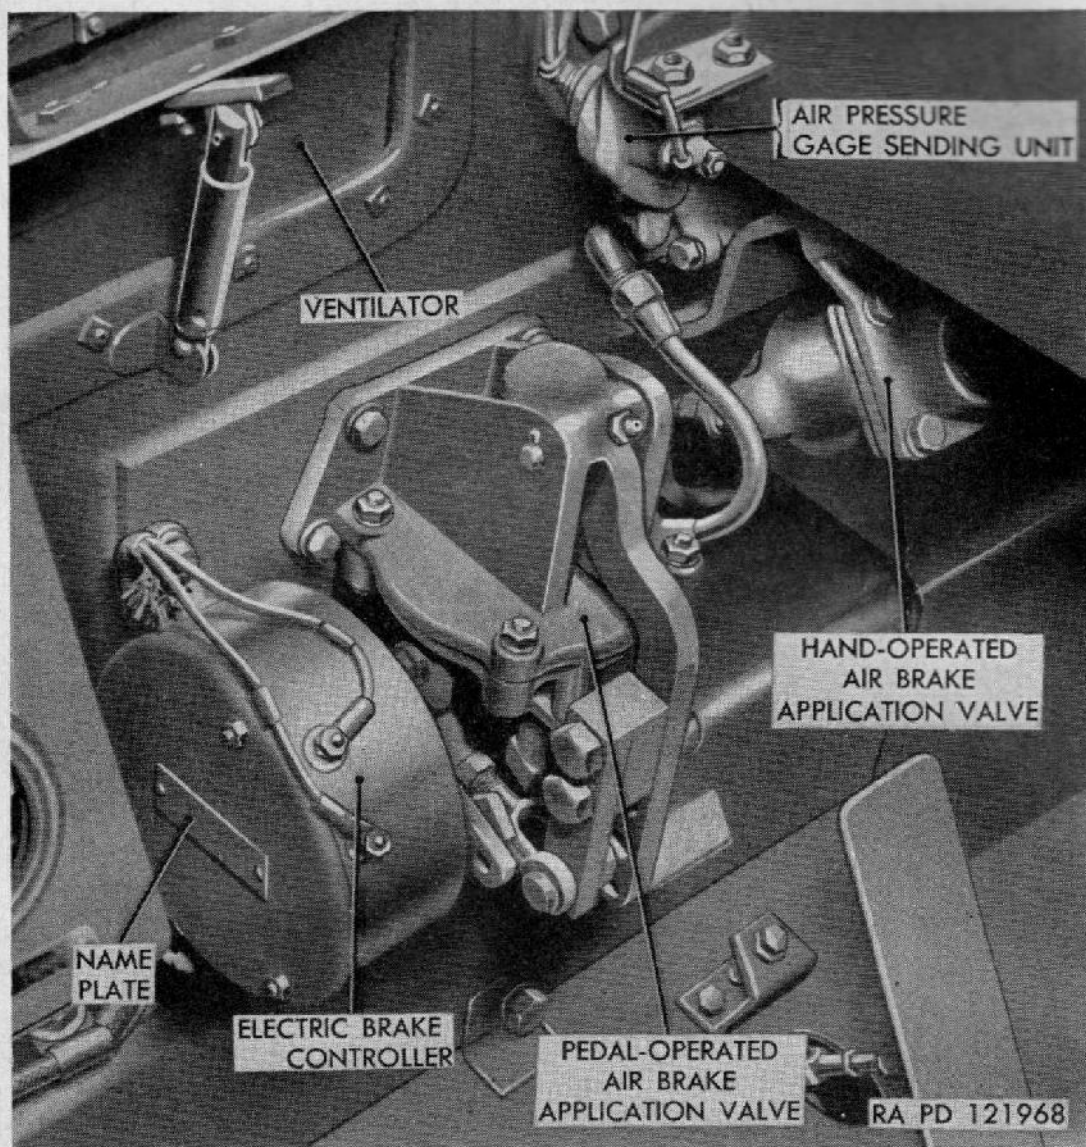
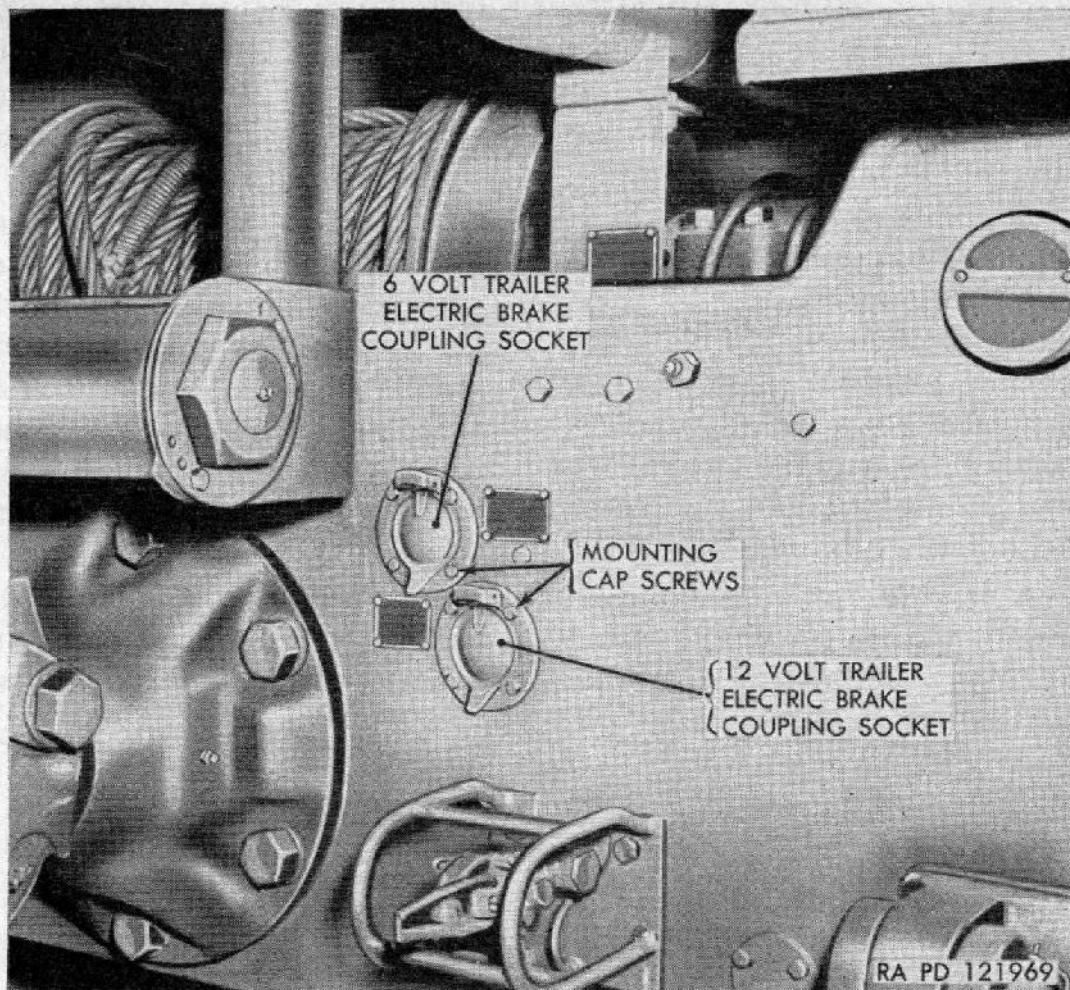

Figure 128. Electric and air brake control units.
Figure 129. Electric trailer brake coupling sockets.
a. Location of Valves. The hand-operated brake application valve is mounted on the dash to the right of steering levers (fig. 128), and pedal-operated valve is mounted on a bracket ahead of steering levers (fig. 128).
b. Replacement of Hand-Controlled Air Brake Valve. Disconnect both in-let and out-let air lines from fittings on valve. Remove the two cap screws holding valve to dash, and remove valve assembly (fig. 128). Install replacement valve to dash with two cap screws and connect in-let and out-let air lines. Start the left engine and check for air leaks at connections after building up pressure in reservoirs.
c. Replacement of Pedal-Operated Air Brake Valve (fig. 128).
- (1) *Remove valve.* Pull cotter pin and remove yoke pin connecting control link to operating lever on valve. Disconnect the two air lines from fittings at bottom of valve. Remove four cap screws holding valve to bracket on dash, and remove valve assembly.
- (2) *Install valve assembly.* Secure valve assembly to bracket on dash with four cap screws and lock washers. Connect air lines to fittings on valve. Connect control link to valve operating lever with pin through rod yoke and lower end of lever. Install cotter pin in yoke pin. Operate engine to build up air pressure and inspect connections for leaks.
- (3) *Linkage adjustment.* When trailer brake pedal is fully depressed, the air valve operating lever or electric brake controller lever should move its full travel and contact the stops. Adjust for full travel of air valve operating lever by removing pin of the control link from lever. Loosen lock nut and shorten or lengthen link by turning it in or out of yoke ends. When correct adjustment is made, connect link to valve lever and install cotter pin in link pin. Tighten lock nut on links. To adjust full travel of the electric brake controller, remove pin from operating lever, adjust link, and replace pin.
d. Brake Controller. The brake controller is mounted on dash ahead of steering levers (fig. 128). Linkage from the trailer brake pedal is connected to a lever on the side of the controller. When the
e. Coupling Sockets. Two coupling sockets are mounted at the rear of the tractor (fig. 129) and are designed for ready coupling of trailer brake cables. There are four terminals on each socket. The trailer
c. Replacement of Brake Controller Assembly (fig. 128).
- (1) *Remove controller.* Disconnect trailer stop light wires from the two smaller terminals of controller (fig. 128). Disconnect brake wires from the two larger terminals (fig. 128). Pull cotter pin and remove pin from operating lever on controller and link. Remove two cap screws holding controller to bracket on dash and remove unit.
- (2) *Install Replacement Unit.* Install unit with two cap screws to bracket. Install pin and cotter pin at operating lever on controller and link. Connect brake wires at the two large terminals and connect trailer stop light wires to the smaller terminals.
d. Replacement of Coupling Sockets (fig. 129). Remove the two upper cap screws and remove cover assembly from socket. Remove the two lower cap screws and pull coupling socket assembly out of bracket. Remove nut and lock washer from center of socket and remove terminal cover. Remove two nuts from each terminal and lift off wires. Install wires on corresponding terminal of new unit as they are removed from old one. Install cover over terminals with nut and lock washer, install socket in bracket, and install socket cover with four bolts and lock washers.